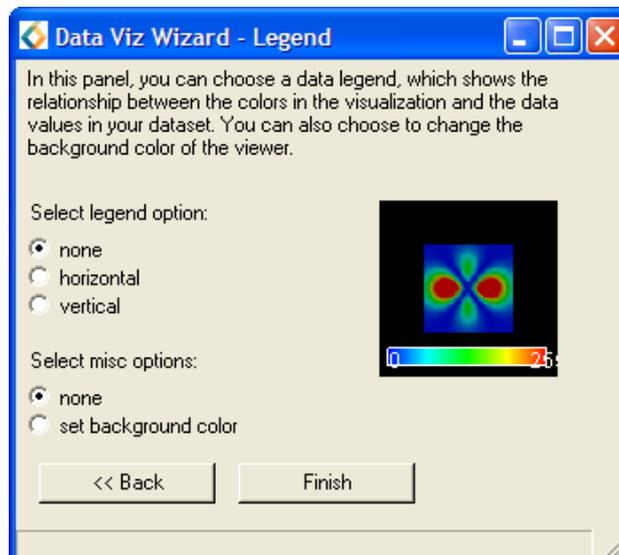

Figure C.16: Data Viz Wizard - Legend
- Finally in the **Legend** window leave all options as default (**none**) and **Finish** (Figure C.16).